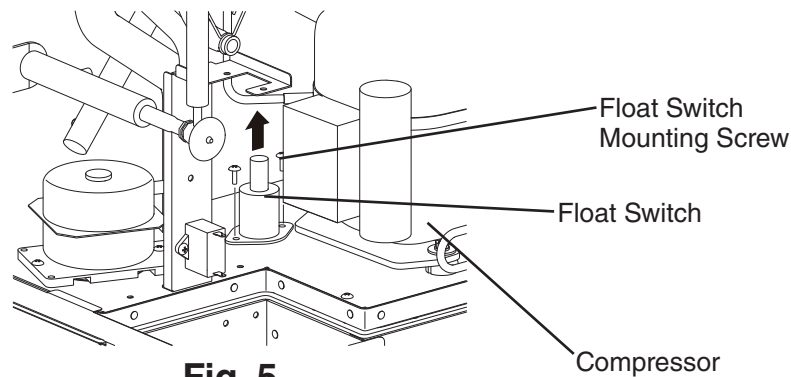

Fig. 5
- 4) Locate FS on the compressor base. See Fig. 5. Remove the screw securing FS to the compressor base and lift FS from the icemaker.